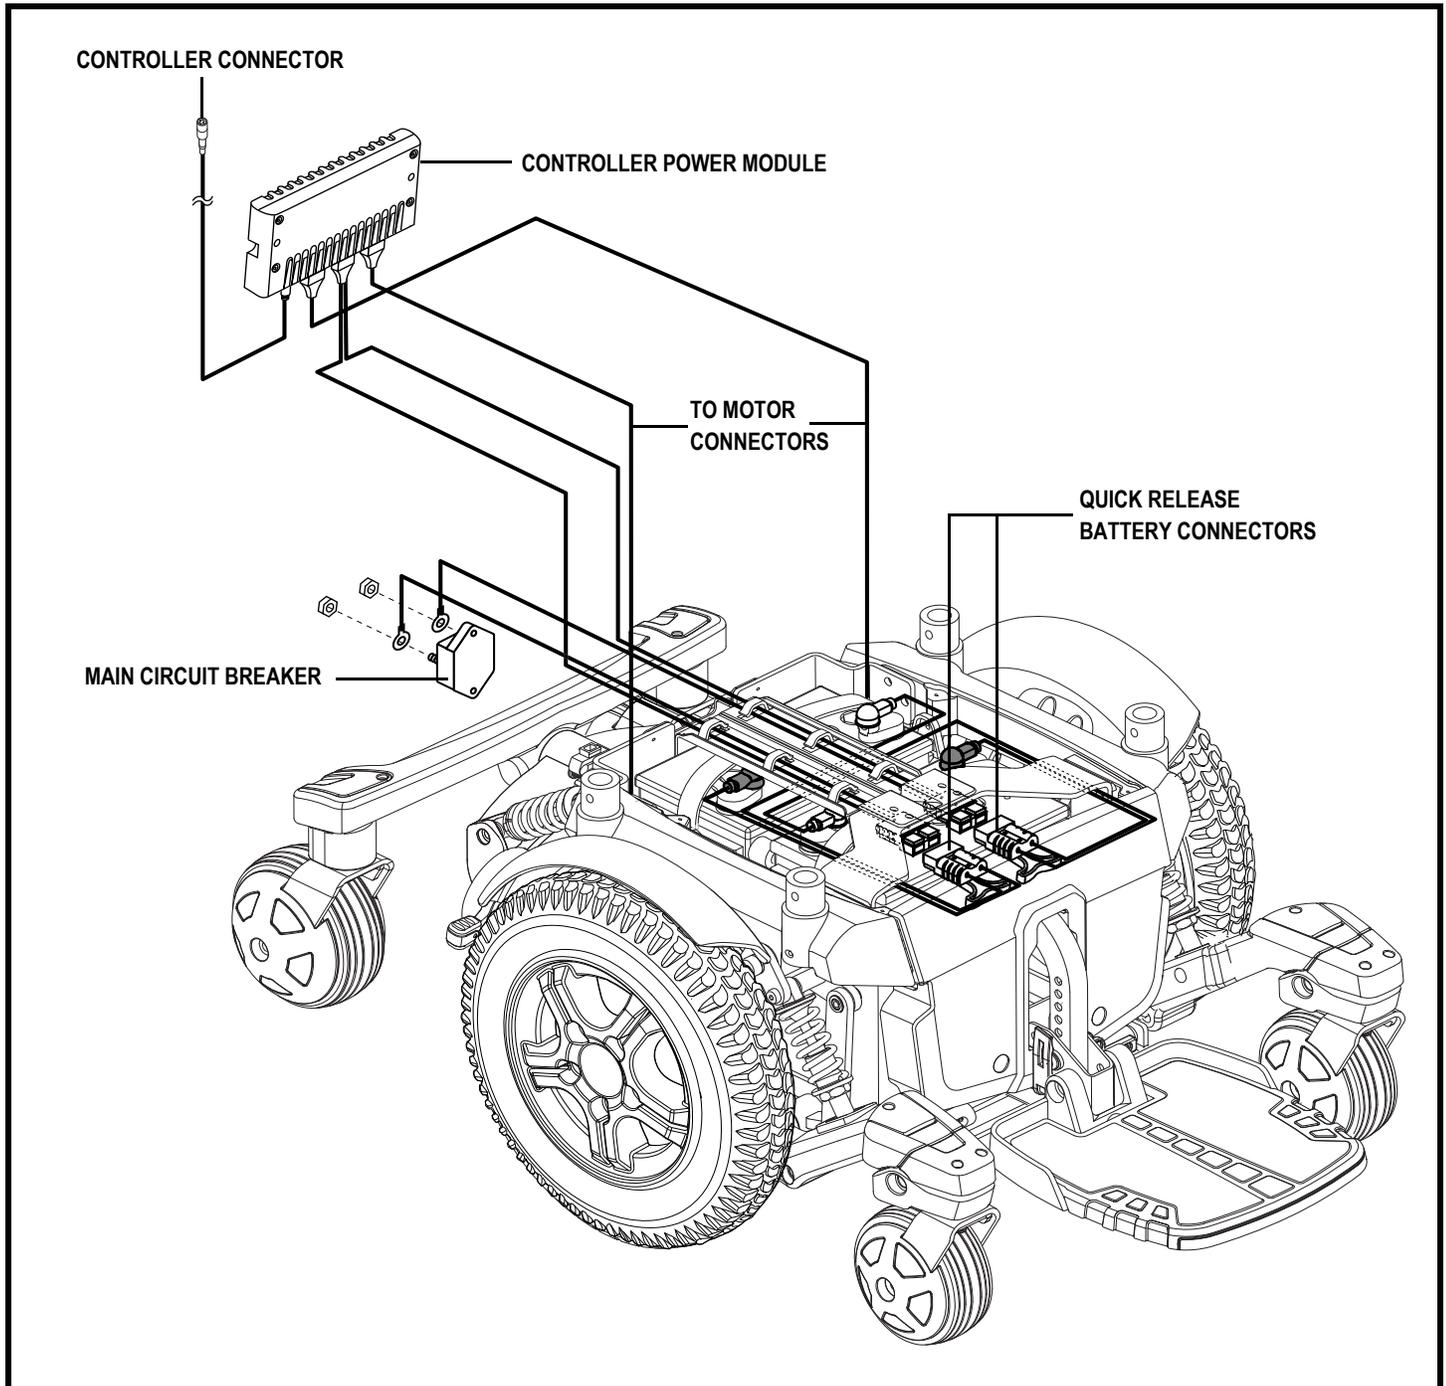

Figure 7. Quantum 6000 Series Electrical Components
The electrical components consist of the controller assembly, the batteries, and the motors. The batteries, motors, and controller power module (if equipped) are located on the power base assembly. The controller is located on the seat assembly. Connectivity between the controller and the motors, batteries, and the battery charger is provided by one or more wiring harnesses. See figure 7.
6. Plug the controller connector into the power base. See figure 7.
4. Disconnect the controller connector(s) from the power base. **See figure 7.**